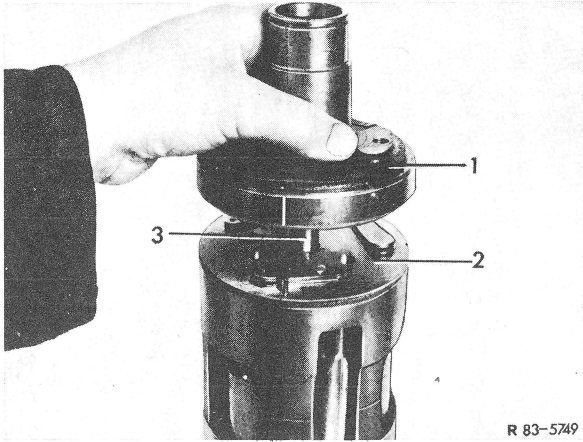

Figure 8
- 25** Determine exact position of headpiece (1) in relation to dowel pins (2) on internal assembly. Mark position of holes on outer side of front head. Carefully place front head into correct position, making sure that the sealing surface around the center bore of the front head does not touch the shaft (3) when the head (1) is lowered. Do not rotate head assembly to engage dowel pins, since otherwise the sealing surfaces will come into contact with the valve bores (Fig. 8).